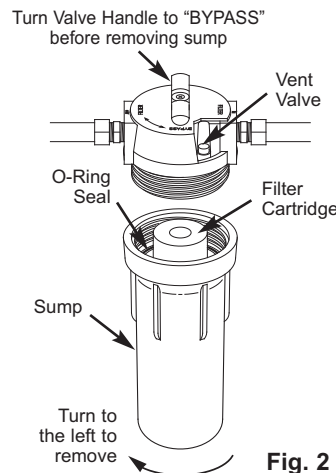

Fig. 2
1. Turn the valve handle to the "BYPASS" position (See Figure 2). To relieve pressure in the filtration system, press the vent valve on top of the filtration system (See Figure 2). Some water may leak out of the vent valve as pressure is being relieved.
2. Turn the sump to the left to remove from the head (See Figure 2). Be careful, as the sump is full of water. Do not lose the large o-ring seal.